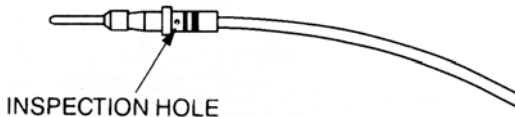

Figure 3-6. Inserting the Stripped Wire into the Contact
2. Insert the stripped wire into the contact pocket until it is visible through the inspection hole (see Figure 3-6).